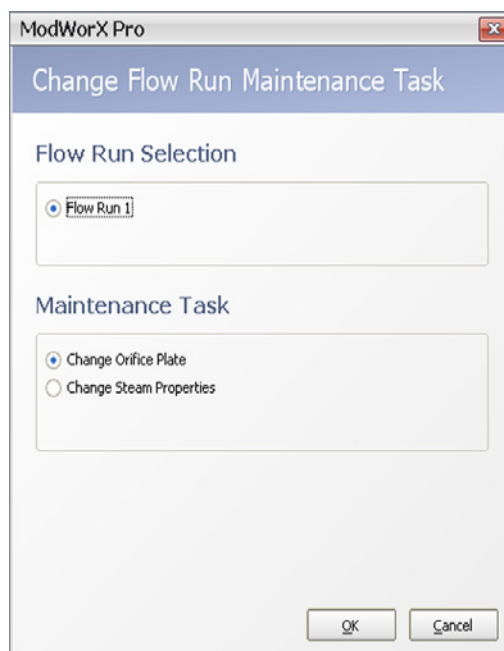

Figure 9.10
1. If Change Steam Properties is not displayed in the Maintenance Task field at the top of the Maintain Flow Run screen, click on **Change Task**. The Change Flow Run Maintenance Task dialog will appear (Figure 9.10, page 136).